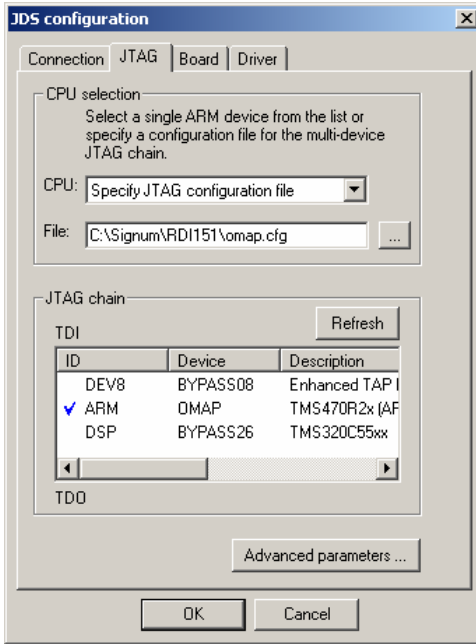

FIGURE 7 Configuring the emulator: the JTAG tab.
2. Once the connection has been established, in the JTAG configuration dialog, select the JTAG tab. Choose Specify JTAG Configuration File (Figure 7).